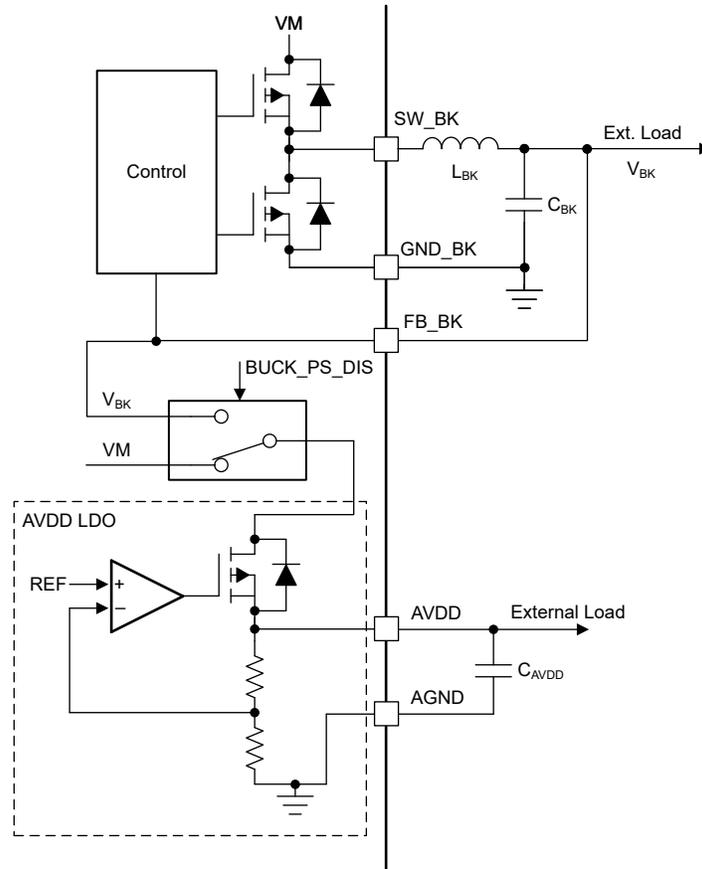

图 7-5. AVDD Power Sequencing from Mixed Mode Buck Regulator
The AVDD LDO has an option of using the power supply from mixed mode buck regulator to reduce the device power dissipation. The power sequencing mode allows on-the-fly changeover of AVDD LDO input from DC mains (VM) to buck output (V_{BK}) as shown in 图 7-5. This sequencing can be configured through the BUCK_PS_DIS bit . Power sequencing is supported only when buck output voltage is set to 5-V or 5.7-V.